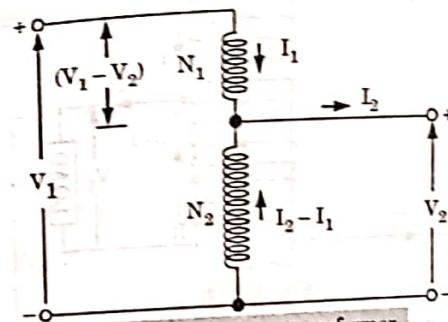

Fig. 4.22.1. Auto-transformer.
- Fig. 4.22.1 is known as an auto-transformer. The auto-transformer differs from a conventional two-winding transformer in the way in which the primary and secondary are interrelated.